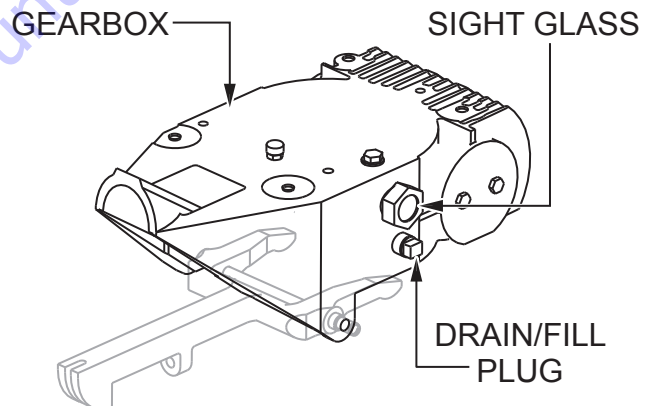

Figure 21. Gearbox Oil
1. Look at the sight glass on the side of the gearbox (Figure 21) to determine if gearbox oil is low. The correct oil level is to the halfway point on the sight glass.
2. If gearbox oil is low, remove the drain/fill plug (Figure 21) and fill with Chevron Cetus® HiPerSYN® 460 synthetic oil until the correct oil level is reached. Replace the drain/fill plug when finished.